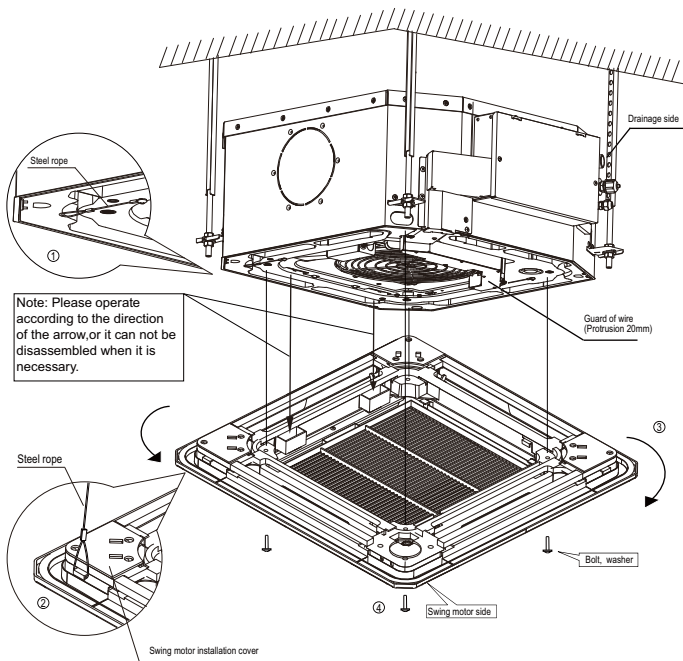

Figure 3.14
- (1) Align the panel with the unit body in the direction indicated by the arrow (see Figure 3.14).
- (2) When mounting, secure the two fixed steel ropes on the unit body to the hooks on the installation cover of the swing motor on the panel (see Figure 3.14, ① and ②).
- (3) Connect the leads from the swing motor, and display box from the panel to the corresponding connections on the unit body respectively. Take care to use protective casing to wrap the connection terminals, and use a reliable fixture to secure and strengthen the safety isolation of the terminals.
- (4) Install and secure the panel on the unit body with bolts (M5X20) and washers (see Figure 3.14, ④). Note that the installation cover of swing motor must sink into the corresponding drain pan.
- (5) Adjust the four panel hook screws to keep the panel level, and lift it evenly up to the ceiling.
- (6) Adjust the panel slightly in the direction indicated by the arrow (see Figure 3.14, ③), so that the centre of the panel aligns with the centre of the opening of the ceiling. Verify that the hooks in all four corners are securely in place.